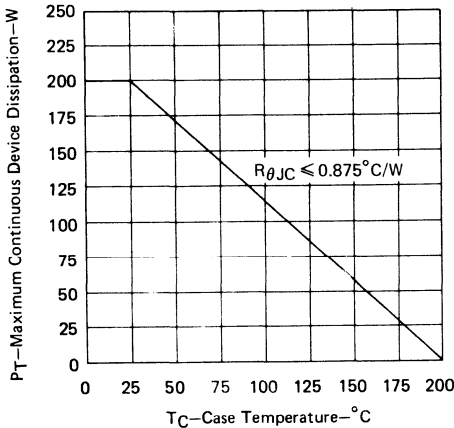

FIGURE 5
3. Derate linearly to 200°C case temperature at the rate of 1.14 W/°C or refer to Dissipation Derating Curve, Figure 5.